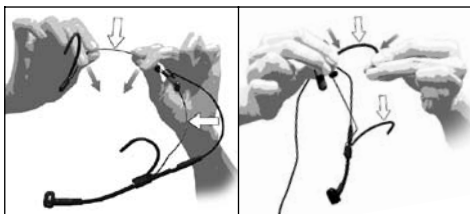

Fig. 6: Bending the headband and temple pieces to fit.
- Hold the headband or temple piece firmly at the points marked in fig. 6 and bend inward **with extreme care**.
Refer to fig. 6.